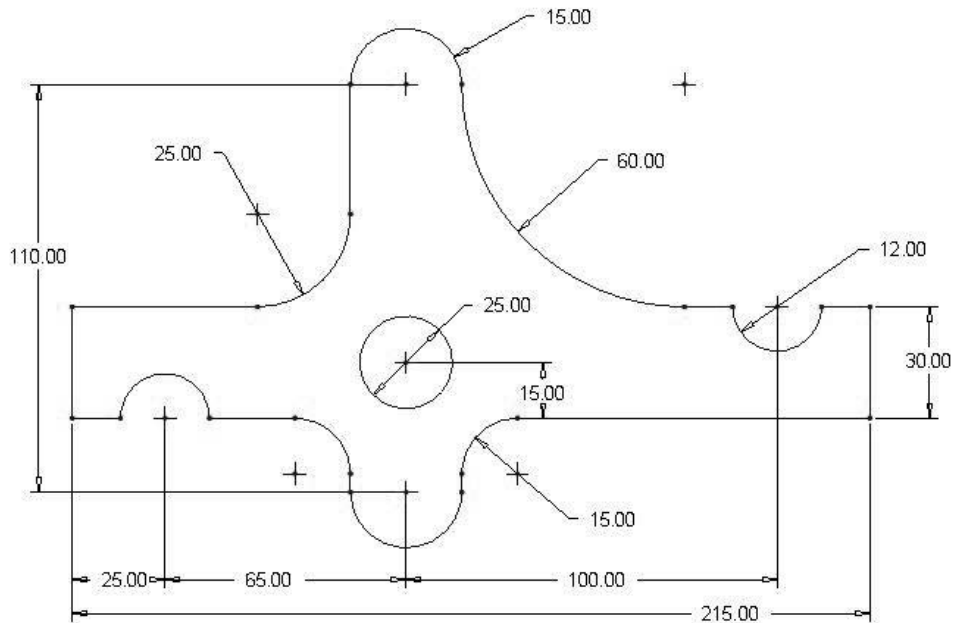

Figure 3-81 Problem 12
- 3.12 Challenge problem - Draw the Racket Pawl (Figure 3-81). Design Intent**—All arcs are tangent to each other or the straight edges. Unmarked similar sizes are the same size. All dimensions are in millimeters.